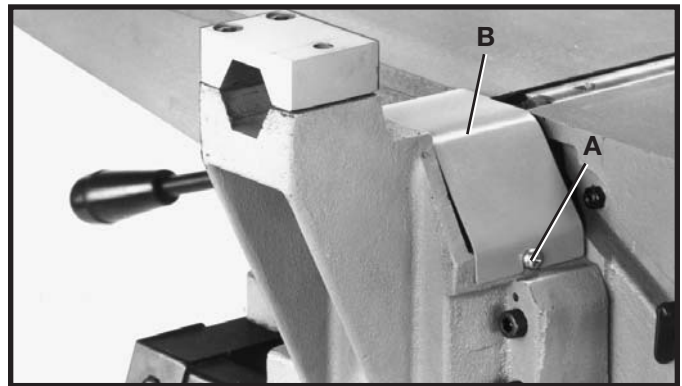

Fig. 17
1. Loosen two screws, one of which is shown at (A) Fig. 17, and remove cutterhead pulley guard (B) Fig. 17, and remove cutterhead pulley guard (B)